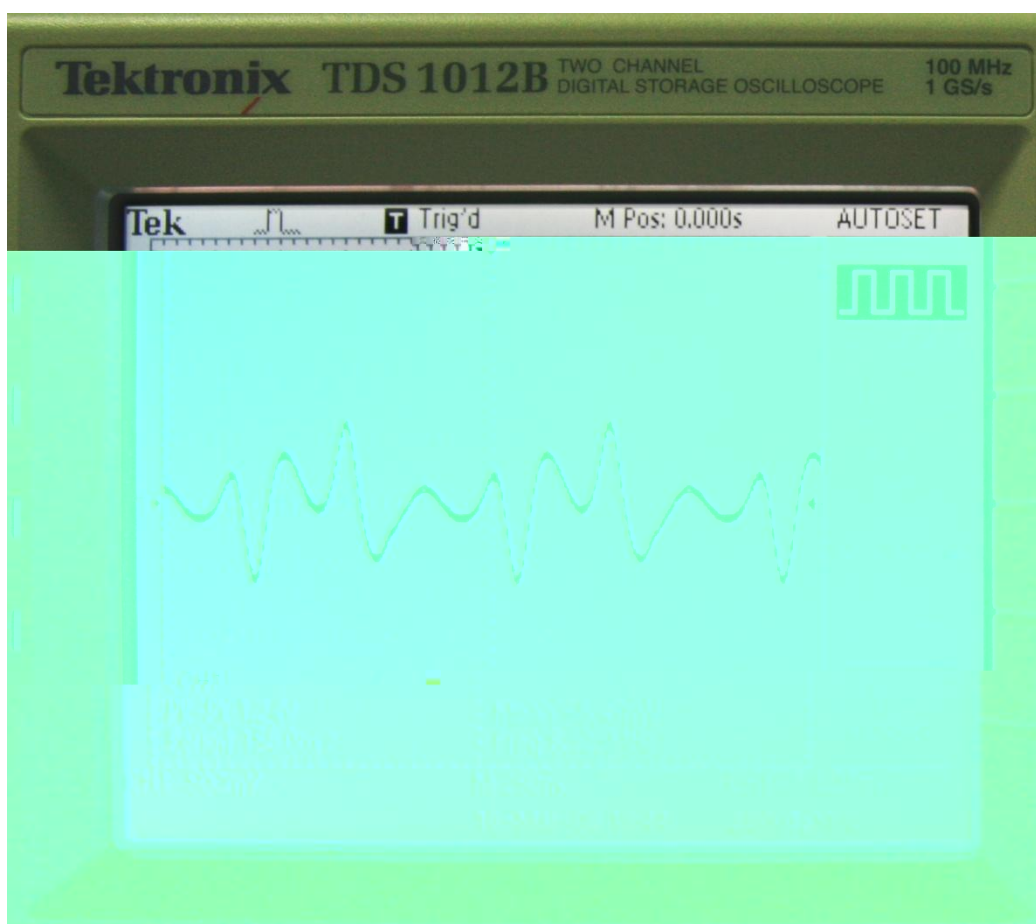

Figure 4-2 Pattern generated from DAC Channel-B is displayed on an oscilloscope
1. Connect the ADA-HSMC to DE3, as shown in Figure 4-2.